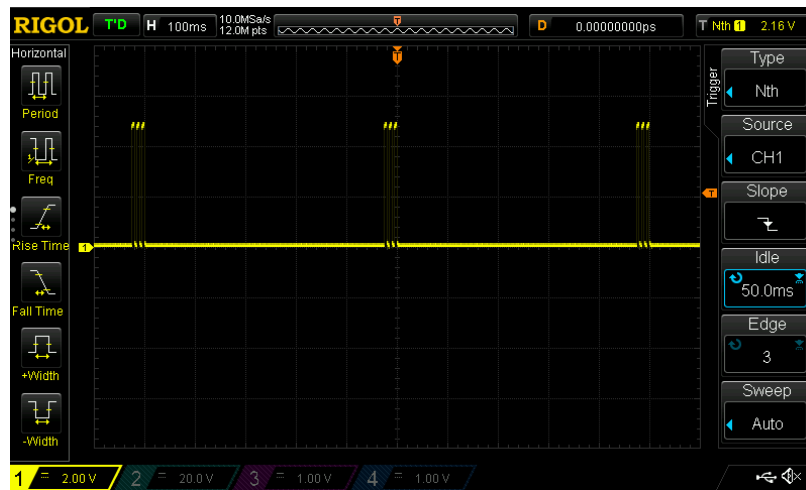

Figure 11: Waveform capture using the Nth Edge mode trigger (Ncycles = 3)
- Use a **suitable oscilloscope trigger mode** to capture the pulses (e.g., **Nth Edge mode** or **Timeout mode** and see **Figures 11 - 13**).